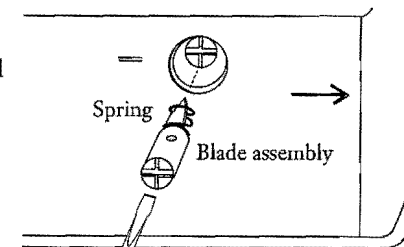

Figure 24
- d) Turn the tool on its side. Orient the blade so that its cutting edge is facing the cutting direction arrow on the tool (see Figure 24). *It is possible to insert the blade backwards in the tool- verify that the blade is facing the correct direction.*